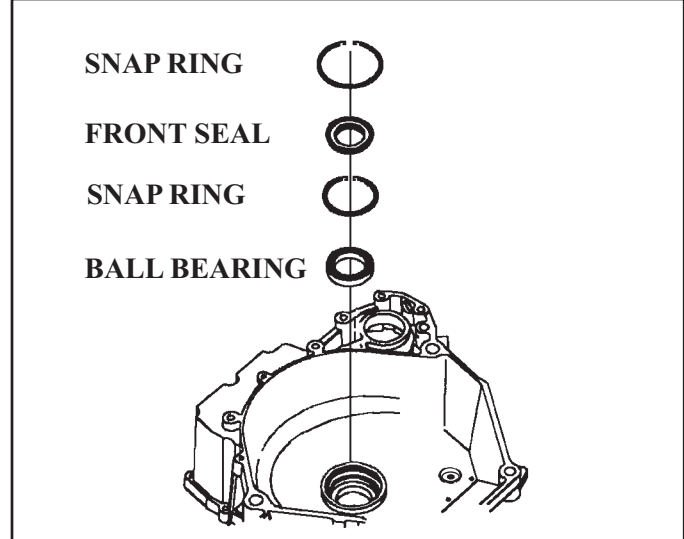

Figure 77
27. Flip the converter housing over and remove the front seal retaining snap ring with a suitable pair of snap ring pliers (See Figure 77).
28. Using a seal puller or a long screw driver, carefully remove the front seal without damaging the case (See Figure 77).
29. To inspect the converter bearing for damage, remove the bearing retaining ring with the same pair of snap ring pliers (See Figure 77).